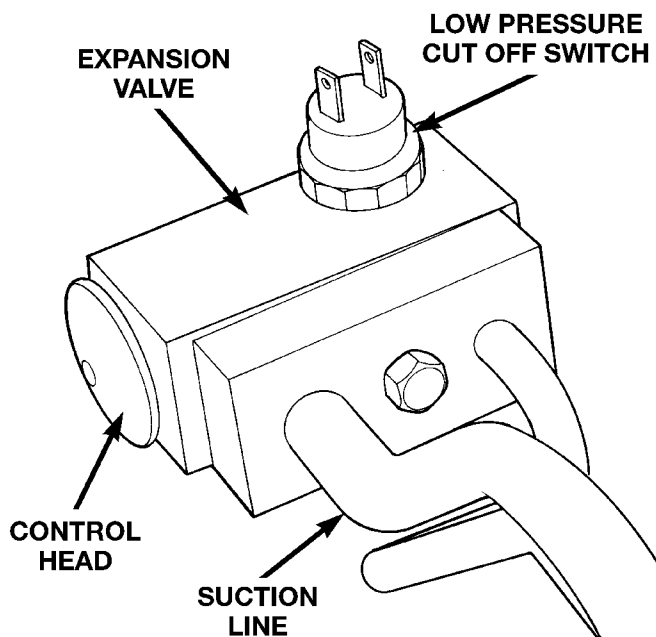

Fig. 37 Low Pressure Cut-Off Switch and Expansion Valve – Typical
- (1) Disconnect the boot like wire connector at the cut off switch.
- (2) Using a sender unit removal socket, remove the switch from the expansion valve (Fig. 37).